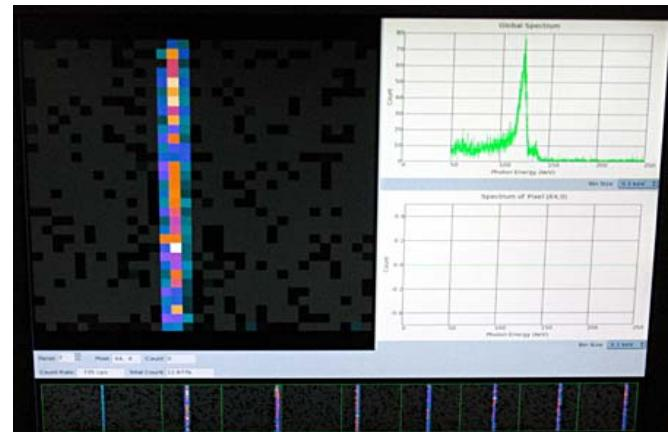

Figure 7-33
- 11.) Figure 7-33 shows a typical screen during data acquisition. The line image at the top left portion of the screen (created by the collimator) is a magnified version of one of the detector panel outputs at the bottom of the screen.